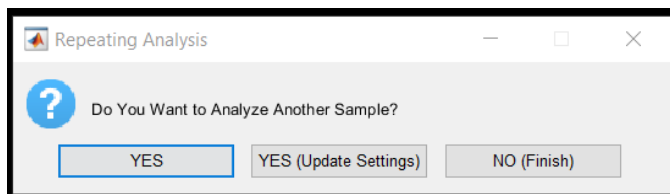

Figure 33: Request for user input after analysis completion.
- A dialogue box will be displayed upon completion ask for user input (Fig. 33), and user can choose from the following three options: